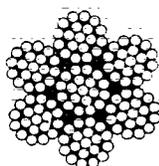

Figure 7-45. Steel Strand Core
**Strand Core** (Figure 7-45) consists of a strand of steel wires, nominally 7, 19 or 37. It is occasionally used in running rope of smaller diameters rather than IWRC. It may also be used in standing ropes, guys, suspender ropes, etc. where extra strength reduced stretch and maximum resistance to weathering are required.